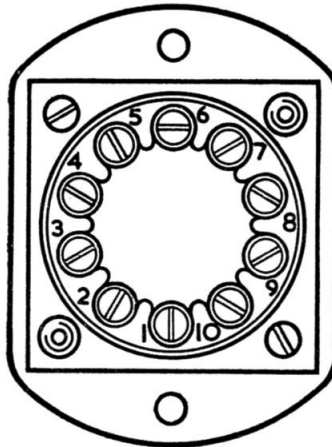

Fig. 3. Terminal arrangement
5. The terminal arrangement, with terminal cover removed, is shown in fig. 3. Where a rubber grommet is used for the cable entry, the tip of the sleeves are cut off as required on installation.